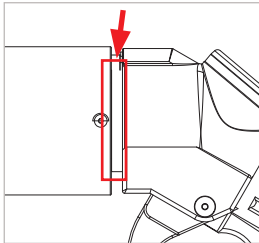

Figure 16
- ▶ Pull the impact protection sleeve (Pos. 1) forward. Spray the marked area (Figure 16).